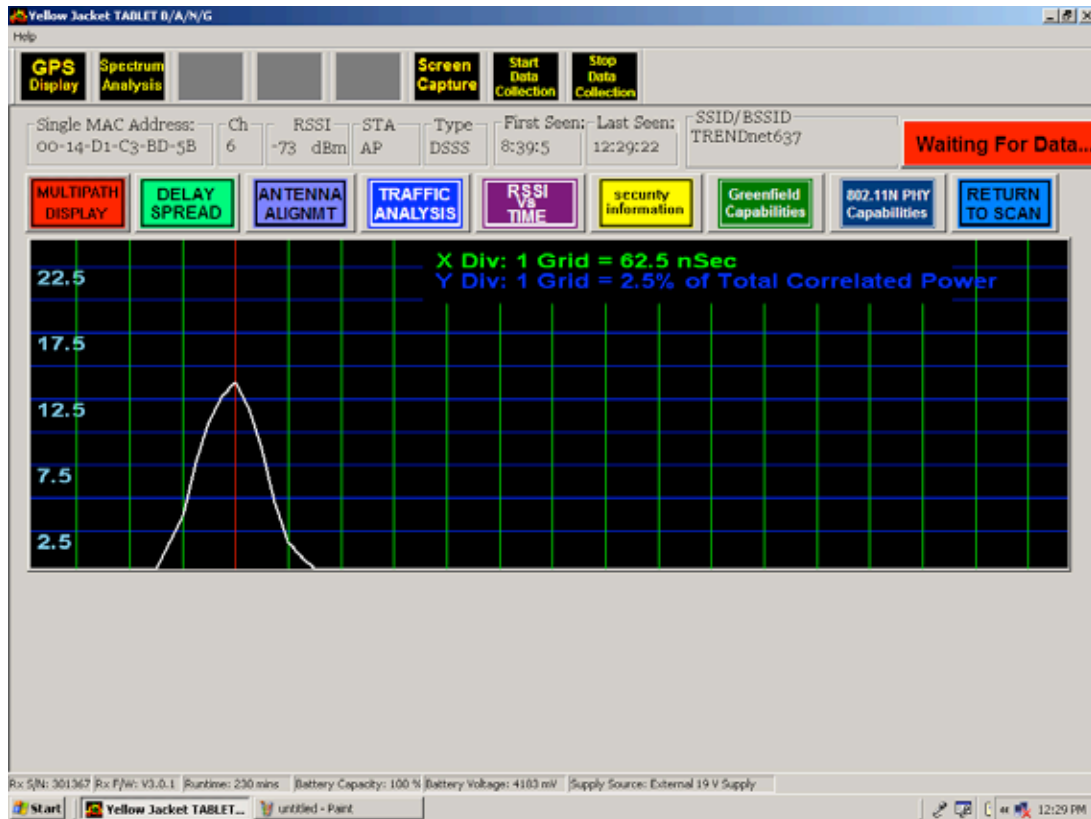

*Figure 12. Single-MAC Function Window Initiated*
Pressing the “RETURN TO SCAN” button will return the user to the Display Devices window (Figure 6 or 11 above). The above Single-MAC functions are initiated by selecting the corresponding soft buttons seen in Figure 12:
Doing so will, by default, set the receiver to perform the first function, namely MULTIPATH DISPLAY for the selected wireless device (see Figure 12 below). Once the receiver enters this mode, any of the 8 functions (including MULTIPATH DISPLAY) may be initiated or re-set by left-clicking the corresponding button in the lower toolbar in the window seen in Figure 12. Each of the soft buttons (different colors); associated windows and functions are discussed next:
**Multipath Display:** Is initiated either by left-double clicking a device in the Display Wireless Devices window MAC Address list (from Figure 6 or 11) or by left-clicking the “MULTIPATH DISPLAY” button in Figure 12. Doing so will initiate this function for the previously selected device as seen in the window in Figure 13: